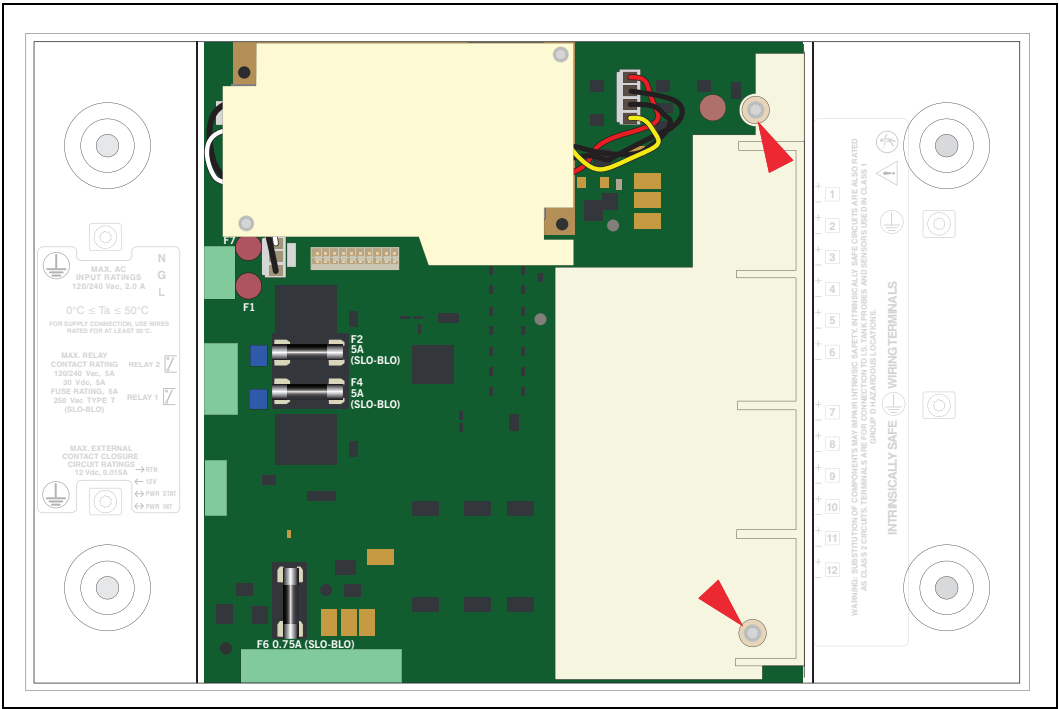

Figure 12. Remove Two T15 Screws Securing I.S. Cover
5. Remove the two T15 #6 x .375 screws securing the I.S. cover and right side of the USIOM board to the console chassis (see Figure 12). Set the plastic I.S. cover, the two T15 screws holding the cover aside.